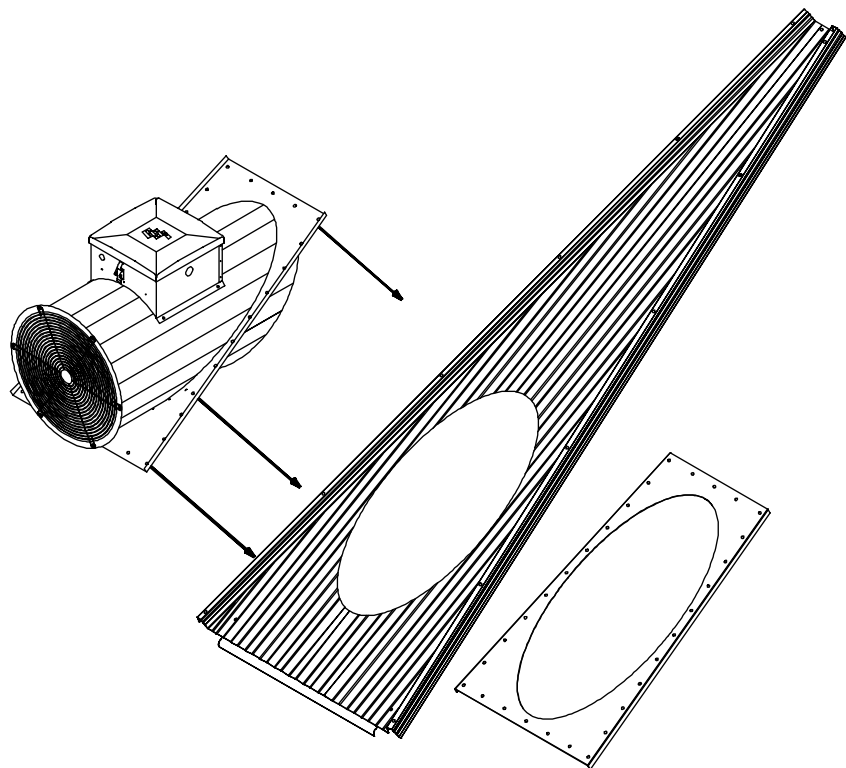

Figure 4: The 18" roof exhauster fan in relation to the roof sheet.
3. Place the roof fan into the elliptical hole from the outside of the roof sheet inward. On the side of the roof sheet that will be inside the bin, position the loose mounting flange over the fan tube. Using the sixteen (16) 5/16" x 3/4" bin bolts with the neoprene washer head to the outside of the bin, secure the fan, roof sheet and flange with the 5/16" nuts provided. See figure 4.